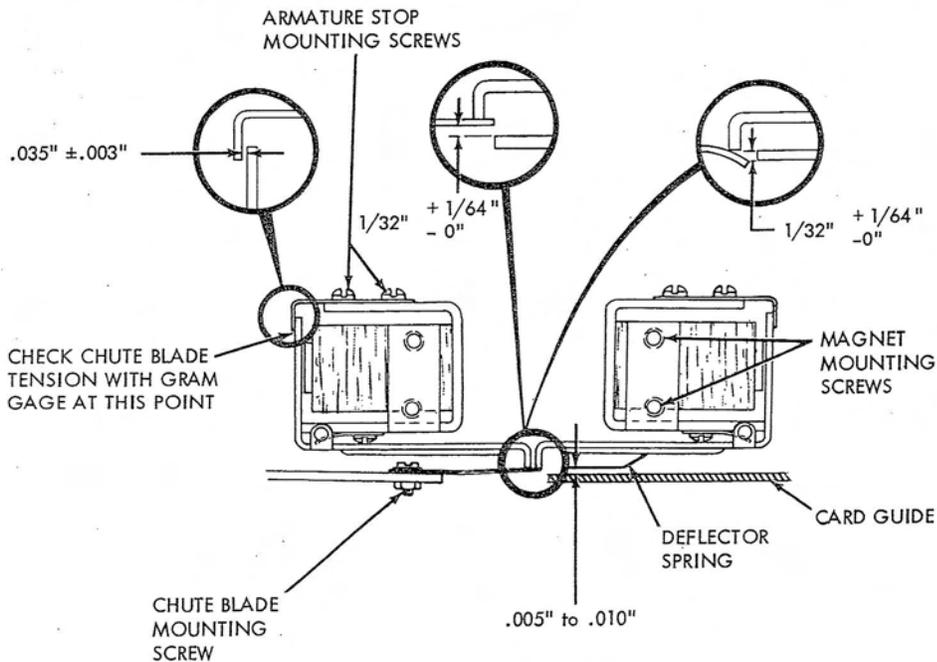

Figure 3-37. Chute Blade and Select Magnet Adjustments
1. Check for fretting corrosion or rust, and excessive wear at select magnet armature pivot. See Figure 3-37.
3. With pocket selector magnet armatures attracted, adjust each armature for $.035" \pm .003"$ clearance between upper part of armature and stop. See Figure 3-37.
4. Adjust selector magnet assembly (by means of the mounting screws) to position the chute blades $1/32" + 1/64" - 0$ above card line when the magnets are not energized, and $1/32" + 1/64" - 0$ below the card line when the magnets are energized. See Figure 3-37.
5. Adjust chute blade tension so that a force of 150 to 350 grams, applied to the 2 or 8 selector magnet armature at a point just under armature backstop, holds the armature fully attracted. A force of 75 to 200 grams should hold select magnet 1 or 4 armatures fully attracted. See Figure 3-37.
7. Position selector magnet deflector spring for $.005"$ to $.010"$ clearance above lower card guide. See Figure 3-37.